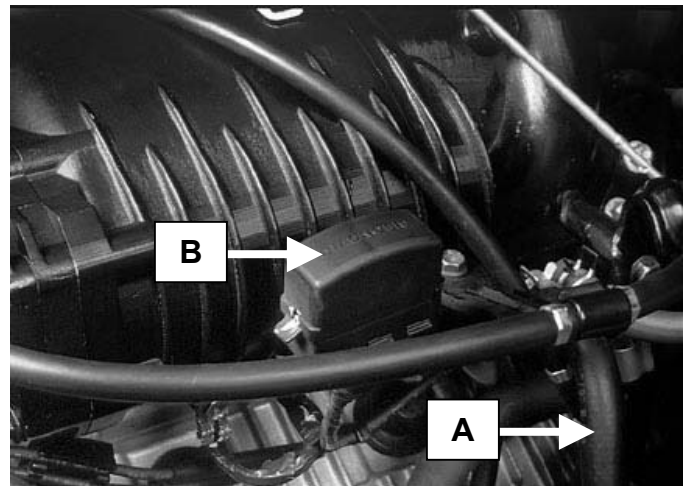

Figure 2
3. Remove the fuel return line bracket from the driver's side of the manifold (Arrow A, Figure 2).
4. Remove the diagnostic plug, plug bracket and the ground connector from the driver's side of the supercharger (Arrow B, Figure 2).